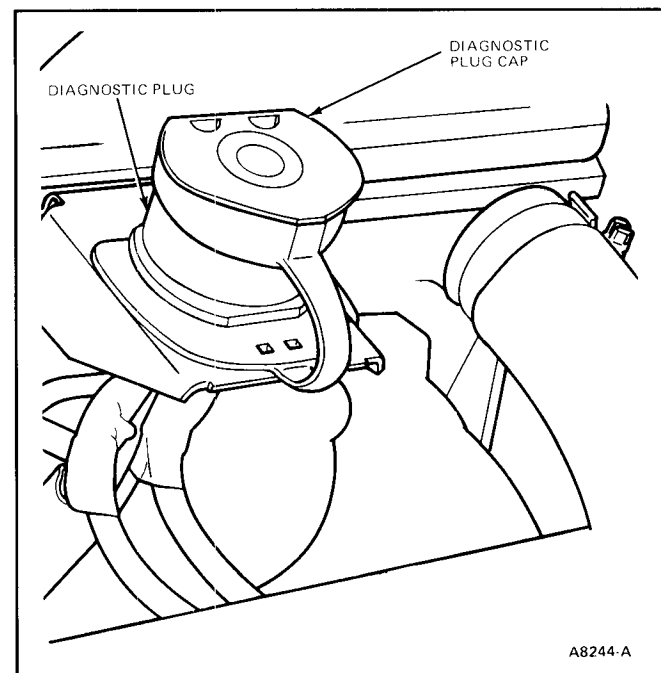

FIG. 19 Diagnostic Plug Bracket
2. Remove diagnostic plug bracket and position out of the way (Fig. 19).
5. Install diagnostic plug bracket and tighten bolts to 20-24 N·m (14-17 lb-ft) (Fig. 19).
6. Disconnect diagnostic connectors (Fig. 19).